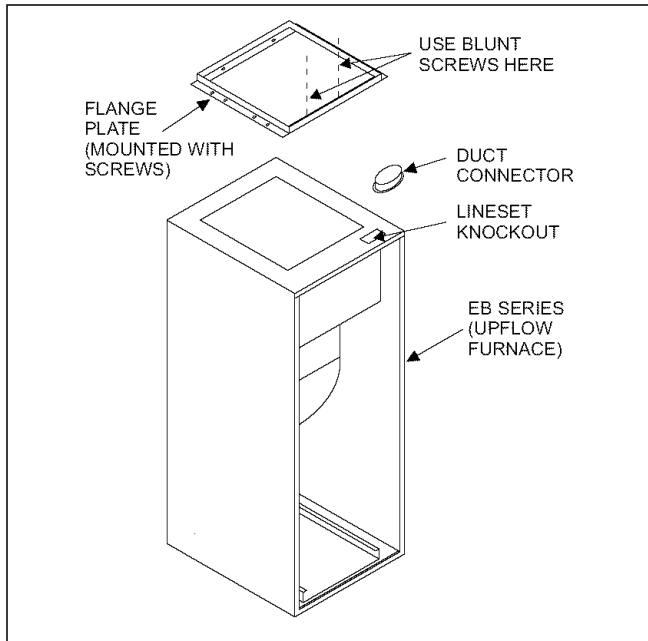

FIGURE 12 : BLOWER BRACKET AND DUCT FLANGE ATTACHMENT
8. Install the duct flange plate on top of the inverted furnace as shown in Figure 12.
10. Flange plate shipped with 3500-7211* is mounted to the furnace with eight (8) screws provided. Two (2) blunt screws are for the holes in the front of the furnace. See Figure 12.